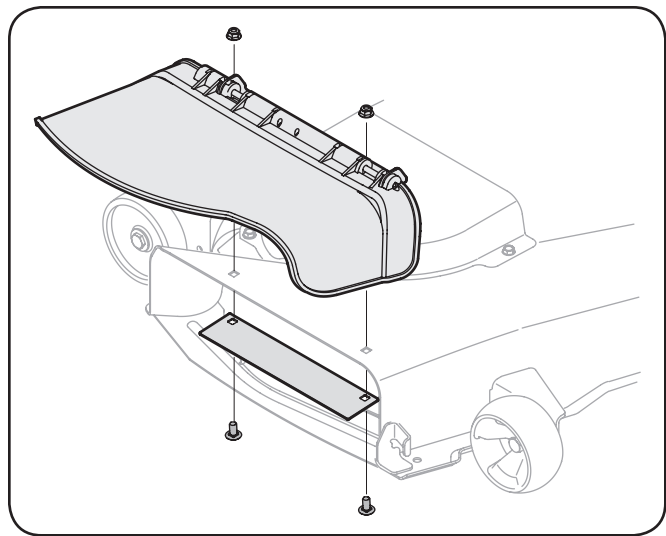

Figure 4-19
3. Install the chute discharge plate to the bottom side of the deck opening, as seen in Fig. 4-19, using two carriage bolts (710-3168) supplied in hardware pack 689-00094.